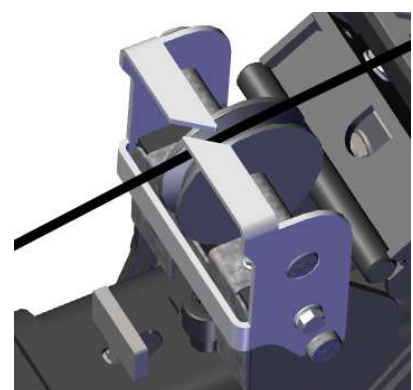

Figure 49
- Place the winch cable on the cable sheave at the front end of the 4th boom section of the jib. Do this by pushing the winch cable through the diagonal slot in the steel strip above the cable sheave. Place the cable in the groove of the cable sheave (see figure 49).